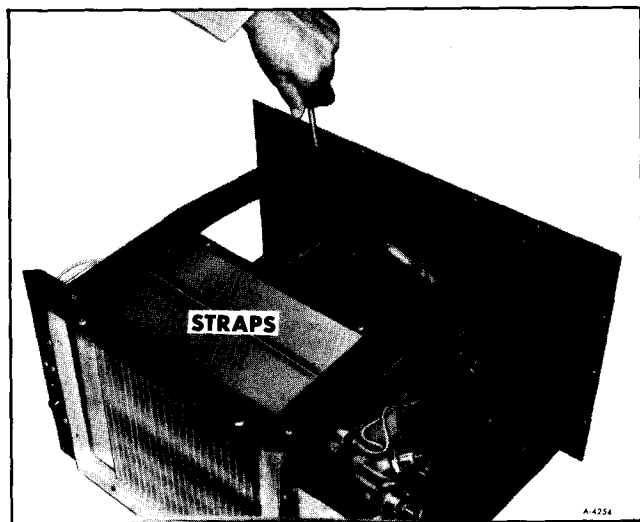

Figure 24—Removing Straps from Furnace
4. Remove straps from furnace (See figure 24).
5. Install straps to furnace (See figure 24).